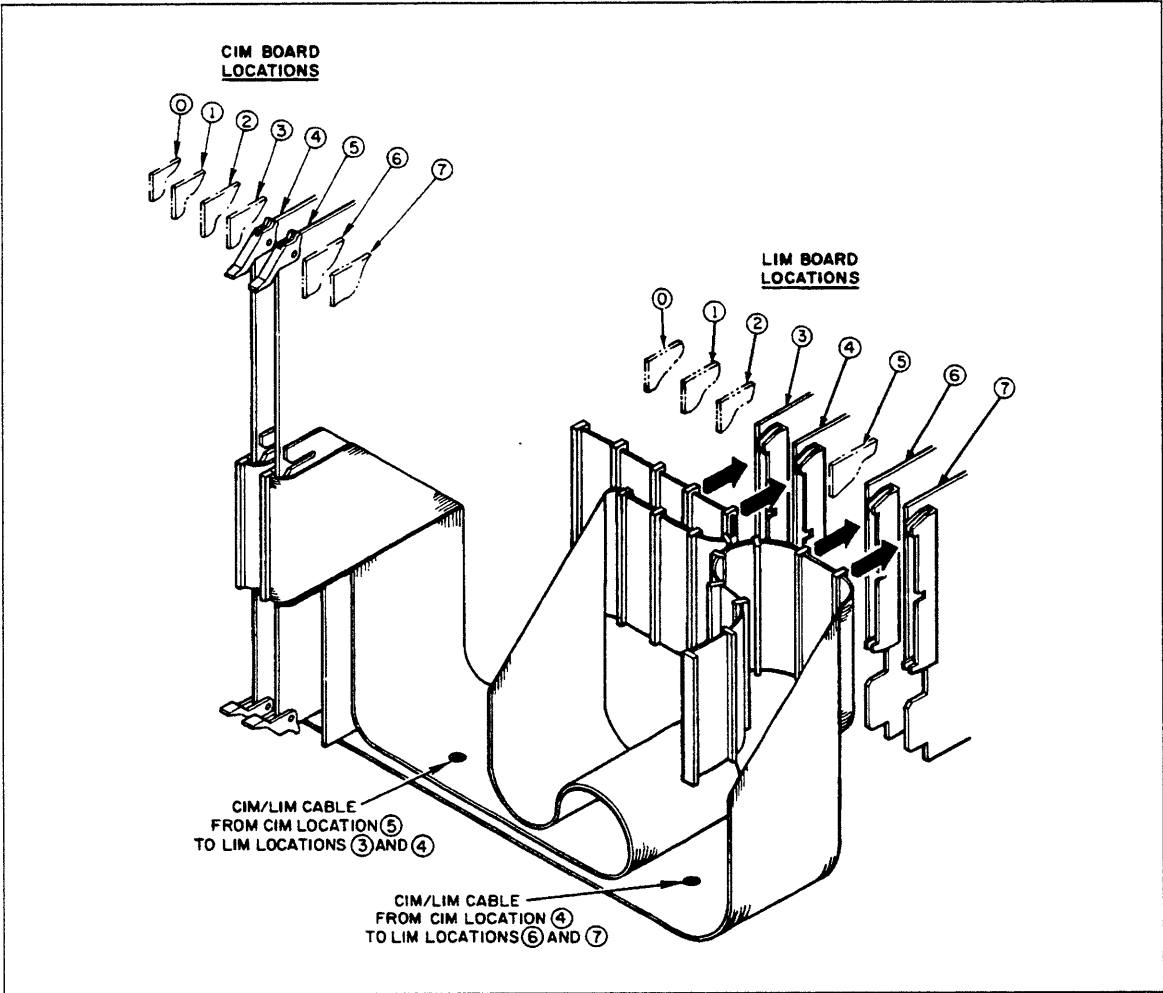

Figure 3-43. Installing Second CIM/LIM Cable
7. Connect cable to LIMs 3 and 4 as follows (figure 3-43):